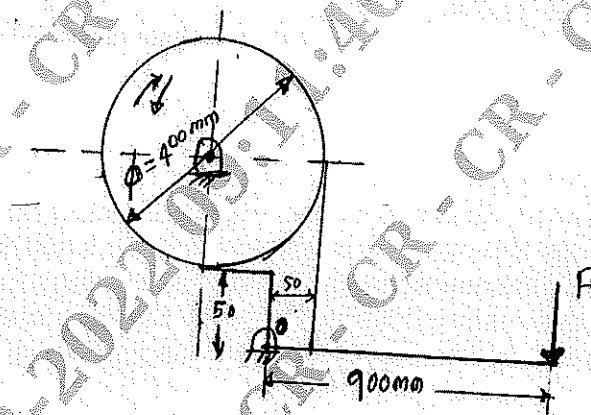

Fig. Q6 (b)
- b. The torque absorbed in the band brake shown in Fig. Q6 (b) is  $400 \times 10^3$  N.mm. Design the band and lever, taking  $\mu = 0.27$  and diameter of drum as 400 mm. The allowable stress in band may be taken as  $70$  N/mm2.